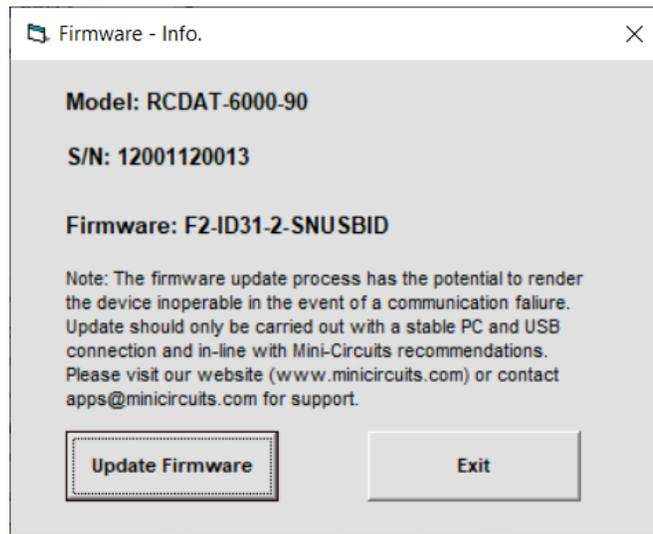

Figure 3.8.5: Firmware - Information Window
3.8.5 The Firmware button will open the firmware info window (See Fig. 3.8.5). The 'Firmware' listed is the version of the firmware installed in your attenuator. Click on "Update Firmware" to select a new firmware version to install or click 'Exit' to close the firmware info window.